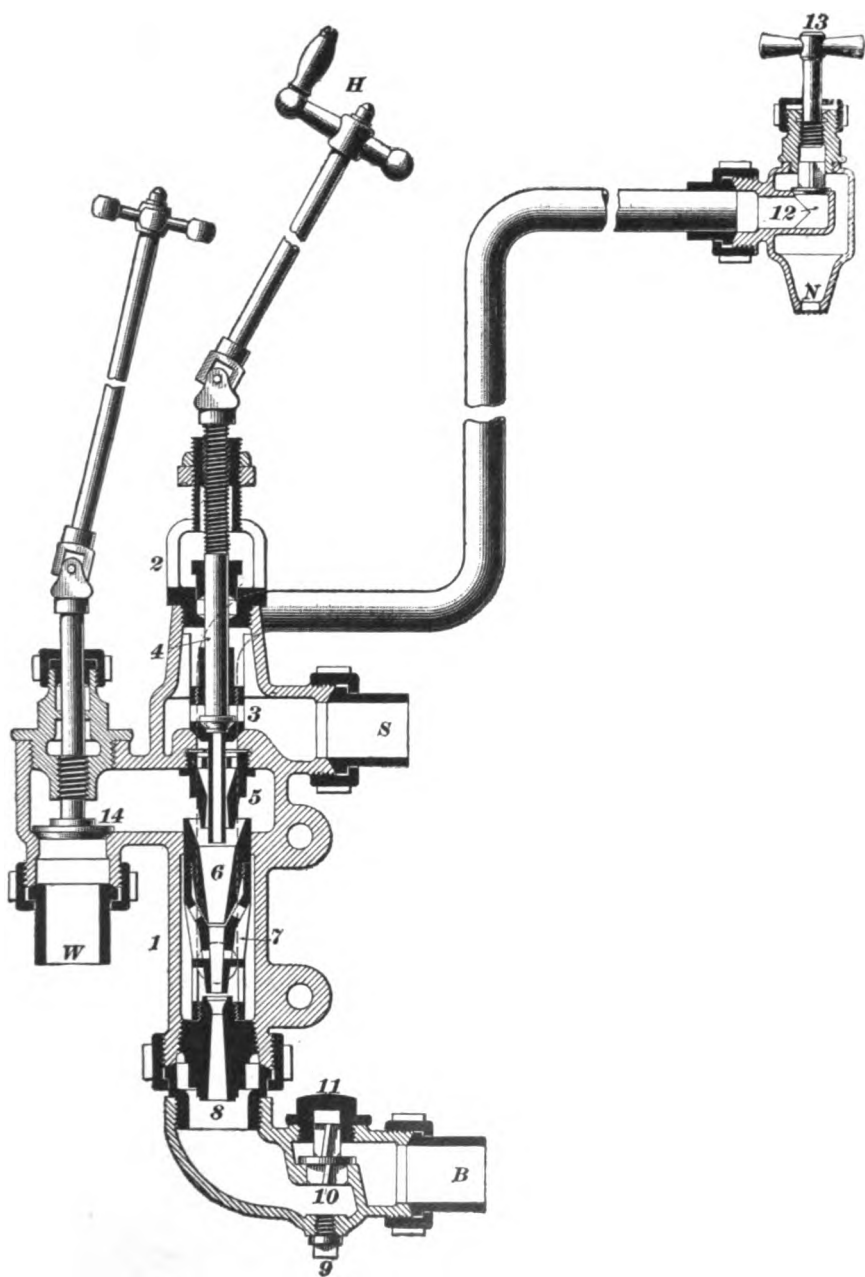

FIG. 9.
The majority of non-lifting injectors are not provided with what is called a priming jet, but simply with a forcing jet that drives the water into the boiler, it having flowed into the injector by gravity, as mentioned above. The point of overflow is usually at the level of the injector body, and the overflow valve must be closed when the injector is not working. Sometimes the injector is provided with a combined overflow valve and heater cock, Fig. 9, connected by a pipe with the overflow space in the injector body, and placed in the cab within convenient reach of the engineer or fireman. This injector can thus be used as a heater, in the same manner as a lifting injector; also, the overflow is in sight of the men in the cab, which is not ordinarily the case with other types of injectors.
**22. Description.**—Fig. 9 illustrates a recent improved form of non-lifting injector; it is known as the **Nathan M** type. It is provided with a water-regulating valve, and it also has a priming jet and a steam valve within the body of the injector itself. The injector overflow valve is not contained within the body of the injector, but is usually placed in a convenient position inside the engine cab, and high enough so as to be above the highest level of the water in the tender. It is connected with the overflow chamber in the injector body by means of a pipe. By placing the overflow valve in the cab, it is under the direct observation of the enginemen, who can then see whether the injector is wasting water at the overflow, and easily open or close it at will; hence, this injector can be used as a heater as readily as can a lifting injector. By placing the overflow valve above the highest level of the water in the tender, loss of water is prevented while the injector is not working, and the overflow valve need not be closed unless the injector is used as a heater.
Referring to Fig. 9, *1* is the body of the injector; *2*, the yoke; *3*, the priming valve and nozzle; *4*, the steam valve; *5*, the steam nozzle; *6*, the intermediate nozzle; *7*, the condensing nozzle; *8*, the delivery nozzle; *9*, the drain plug, usually a petcock; *10*, the line check-valve, and *11* its cap; *12*, the overflow valve; *13*, the overflow-valve handle; *14*, the water valve; and *N*, the overflow nozzle.